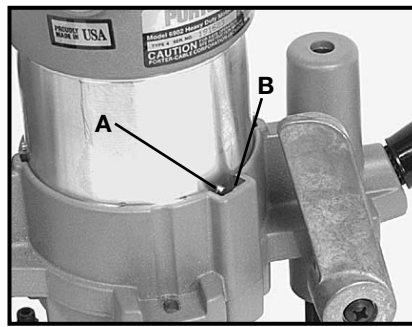

Fig. 6
3. Insert motor unit into base with switch positioned at front of left handle (see rear view in Fig. 6), and align the four pins (A) Fig. 6, in the motor case with the slots (B) Fig. 6, in the base.